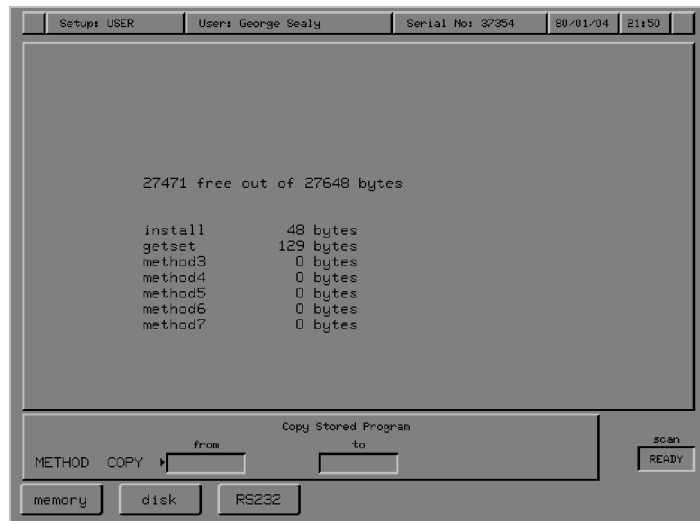

Figure 6-7 The Method Copy Screen
*The Method Copy screen appears (Figure 6-7). The current methods and the size of each are listed, and the total number of bytes remaining is reported. The soft key cursor indicates that you are about to enter the source of the method in the **from** field.*